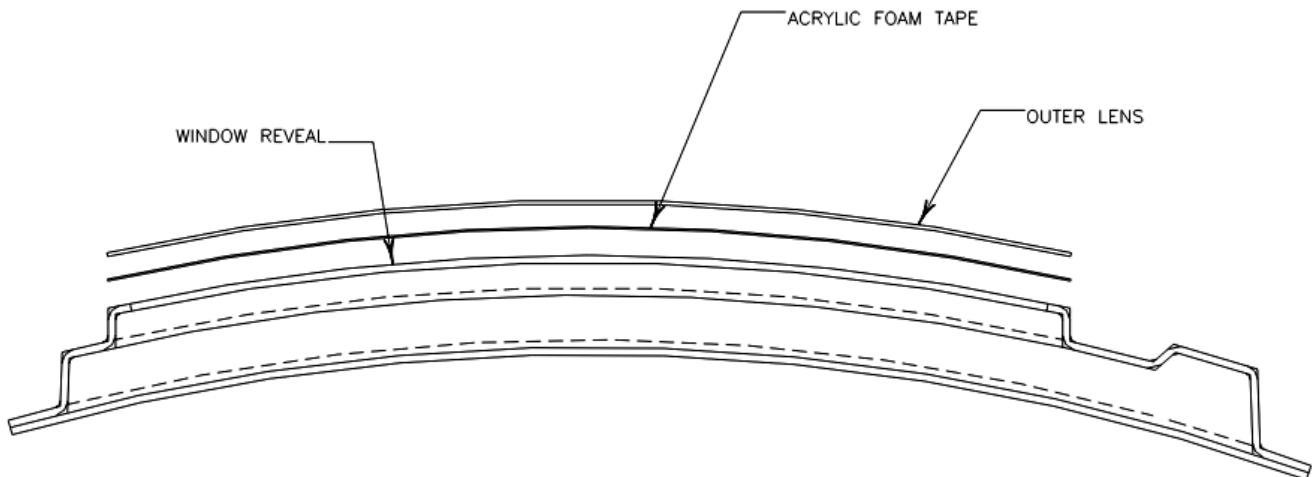

FIGURE 14/ GRAPHIC 25-23-03-991-014
6. Replacement procedure for outer lens (See FIGURE 14/ GRAPHIC 25-23-03-991-014)